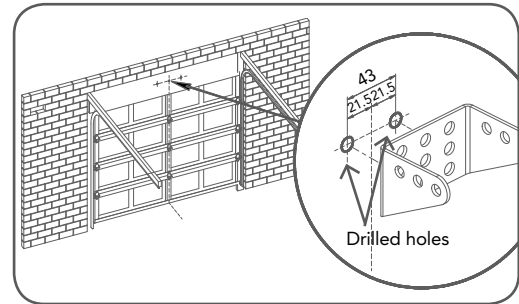

fig 10
- Determine the centre point on the wall above and on top of the door. Draw two lines extending 21.5mm from each side of the centre point. (**Fig. 10**)
- Centre the bracket over the intersection of these two lines. Mark centres for at least two holes (**Fig. 10**) and ensure it is into a solid mounting point.